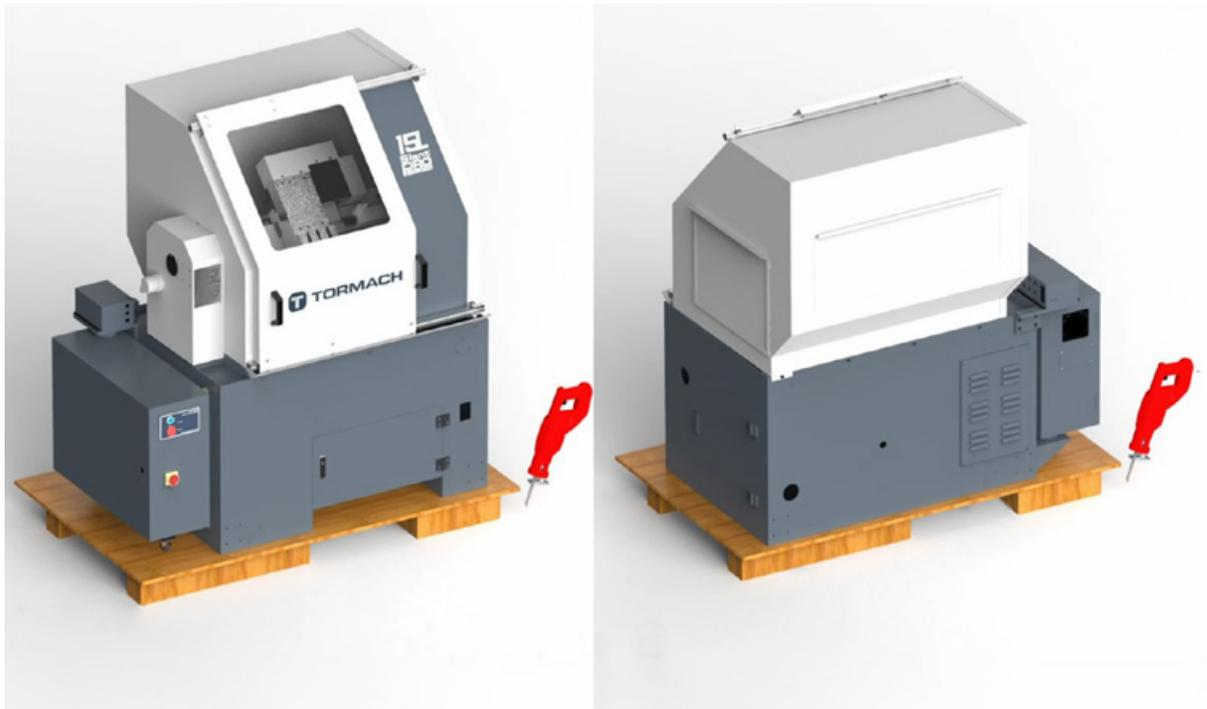

Figure 2.1
1. Cut a strip of wood down the entire length of the pallet, on both the front and the back side, to provide clearance for the lifting feet. A skill saw works well for this (see **Figure 2.1**).